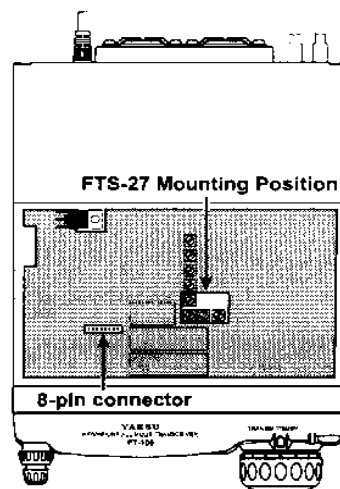

Figure 5
3. Refer to Figure 5, locate the unused 8-pin connector on the Main Unit. Plug the **FTS-27**'s cable into the connector, then peel the covering from the exposed side of the tape, and press the **FTS-27** onto the Main Unit.